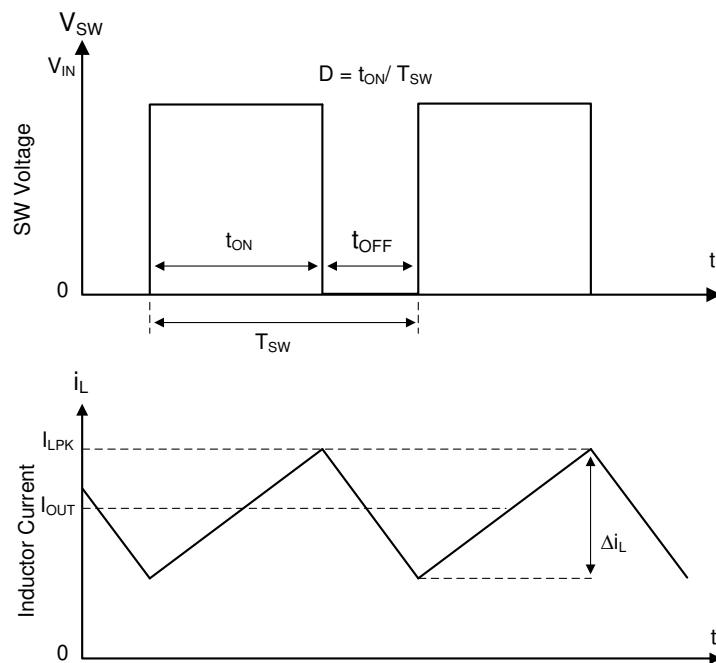

Figure 8-1. SW Node and Inductor Current Waveforms in Continuous Conduction Mode (CCM)
The following operating description of the LMR50410-Q1 refers to Section 8.2 and to the waveforms in Figure 8-1. The LMR50410-Q1 is a step-down synchronous buck converter with integrated high-side (HS) and low-side (LS) switches (synchronous rectifier). The LMR50410-Q1 supplies a regulated output voltage by turning on the high-side and low-side NMOS switches with controlled duty cycle. During high-side switch ON time, the SW pin voltage swings up to approximately V_{IN} , and the inductor current, i_L , increases with linear slope $(V_{IN} - V_{OUT}) / L$. When the high-side switch is turned off by the control logic, the low-side switch is turned on after an anti-shoot-through dead time. Inductor current discharges through the low-side switch with a slope of $-V_{OUT} / L$. The control parameter of a buck converter is defined as Duty Cycle $D = t_{ON} / T_{SW}$, where t_{ON} is the high-side switch ON time and T_{SW} is the switching period. The converter control loop maintains a constant output voltage by adjusting the duty cycle D. In an ideal buck converter, where losses are ignored, D is proportional to the output voltage and inversely proportional to the input voltage: $D = V_{OUT} / V_{IN}$.